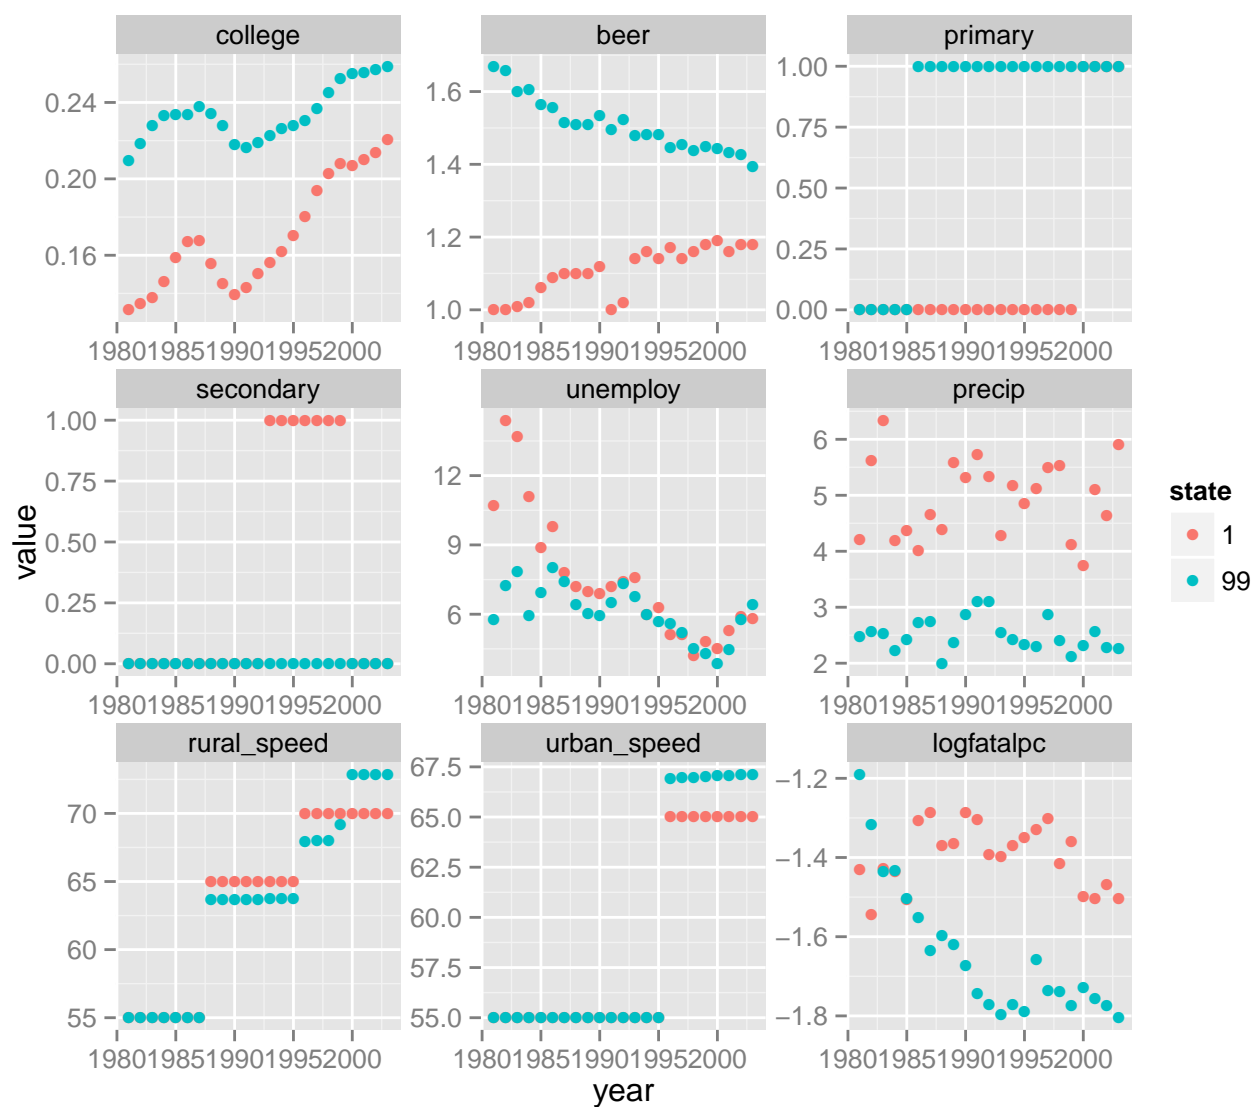

Figure 3: Trends in the covariate (and dependent) variables for the composite treatment state (99) and Alabama (1)
**Fried green covariates and other stereotypes confirmed** Tables 1 and 2 compare the covariates for the composite treatment state and Alabama. There are broad differences between the states. Alabama has higher precipitation, lower college achievement, lower alcohol consumption, higher unemployment, etc. Additionally, the mean value for the dependent variable of interest,  $\log(\text{fatalities per capita})$ , is quite different for the two states. Examining the trends in the covariates (and dependent variable) for the two states (see Figure 3) shows that it could be construed as a coincidence that Alabama is the best match for the value of the dependent variable, since the trajectory in fatalities for both states are following opposite trends in that time and 1985 happens to be the time when they intersect. There are also important and long-term differences in precipitation and alcohol consumption.